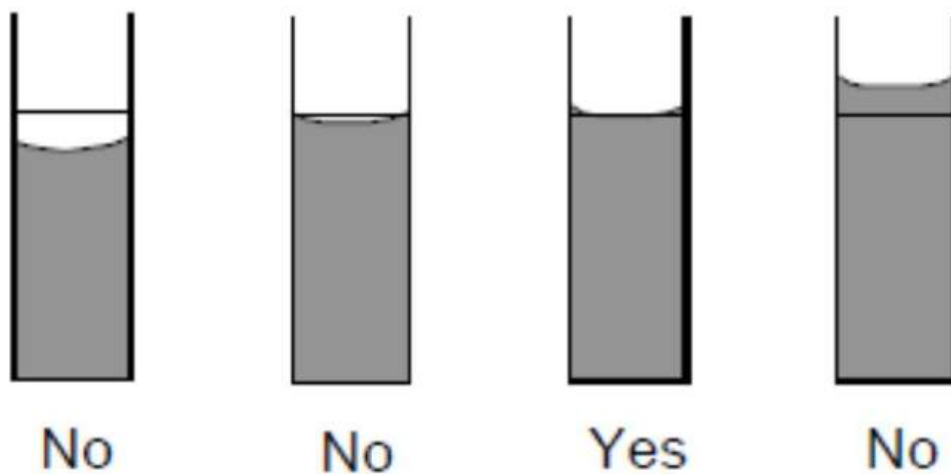

Figure 3: Correct relationship of a meniscus to the measurement mark. Source: <http://depts.washington.edu>
In the second part of this experiment, you will find the density of and identify an unknown metal. Note: When measuring the volume of liquid in lab glassware, the bottom of the liquid’s meniscus must be level with the mark on the glassware (see Figure 3). Many pieces of volumetric glassware have multiple marks, so it is important to identify the location of the mark you are measuring to before beginning to add any sample.
3. Using your station's distilled water squirt bottle, dispense 10 mL of distilled water into the 10 mL graduated cylinder. Reference the bottom of the meniscus, as shown in Figure 3, to measure this volume correctly. Pour the water from your graduated cylinder into Beaker A and obtain the mass of the water-filled beaker. Record this value in line 2 of Table 2.